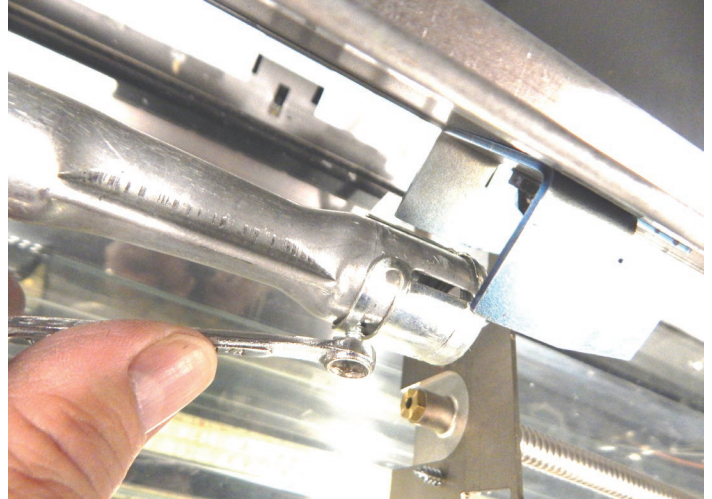

Figure 7
14. Using a 1/4" wrench, loosen the air shutter screw, then adjust the air shutter by rotating it to 1/16" open position. **See Figure 7.**